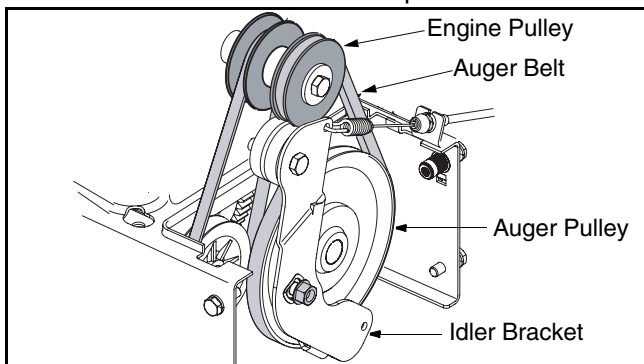

Figure 14
- Slip the front auger belt off the engine pulley pushing it down between the idler bracket and the engine pulley. See Figure 14.